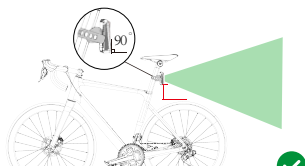

Figure 5
1. Mounting the seatpost mount too low may block the radar signal with the tire, which will impact the detection performance. Refer to Figure 5 for a visual illustration.